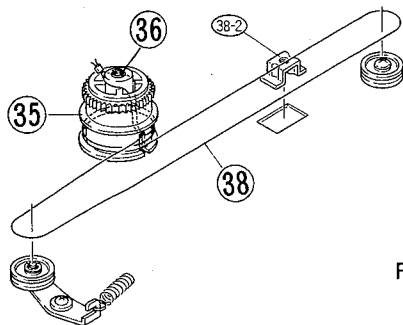

Figure 12
**(A) REPLACE THE WIRE ASSY (38) AS FOLLOWS:**
1. Prior to mounting, String K (38) should be rolled two turns by Wheel (35) (Fig. 12).
4. Place the Guide (38-2) to the depressed part on case bottom (Fig. 12).